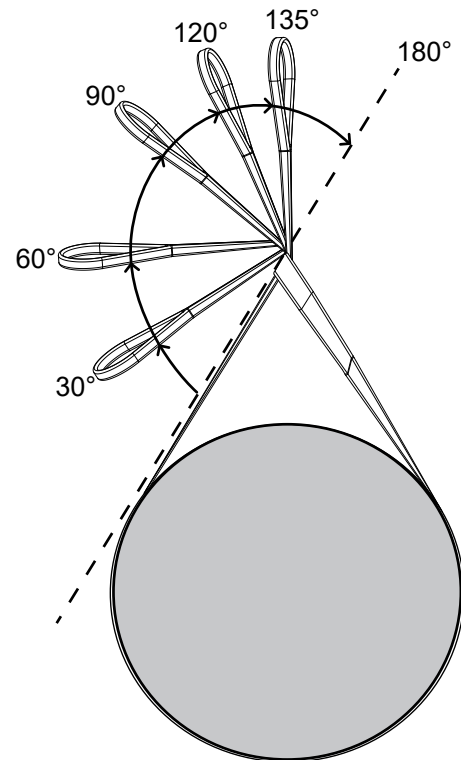

Figure 3. Choke Angle
3. If the **choke angle** (Figure 3) is **120 degrees or less**, the lifting strength of the slings must be de-rated as shown in Table 1, in accordance with ASME Standard B30.9.